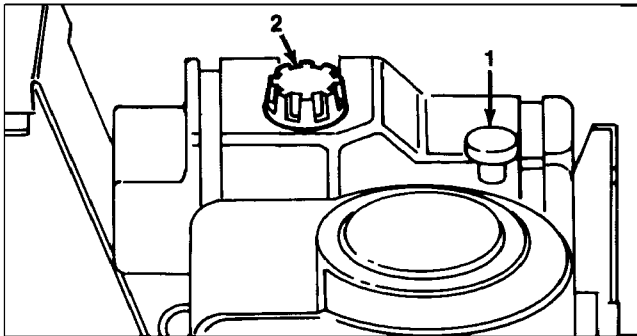

Figure 9
2. Unscrew and remove the dipstick from the oil fill tube (Fig. 9).
1. Clean the area around the fuel tank cap so foreign matter cannot enter the tank when the cap is removed (Fig. 9).